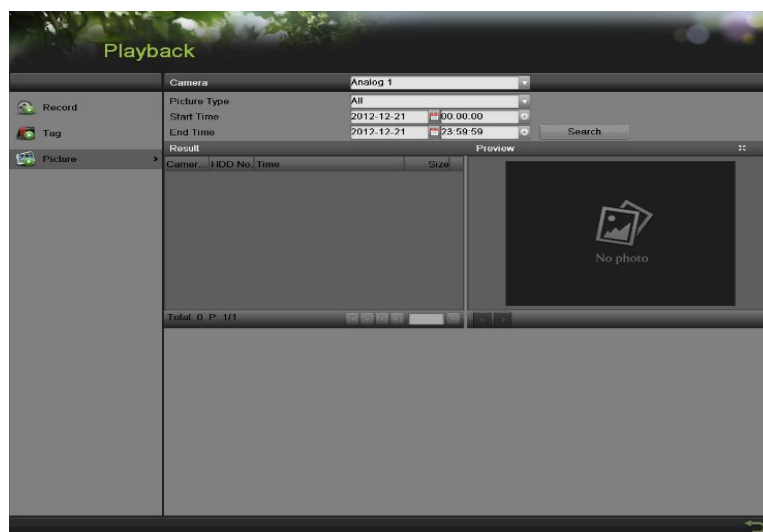

Figure 52 Picture Playback Interface
1. Enter the Picture interface, shown in Figure 52 by going to Menu > Playback > Picture.